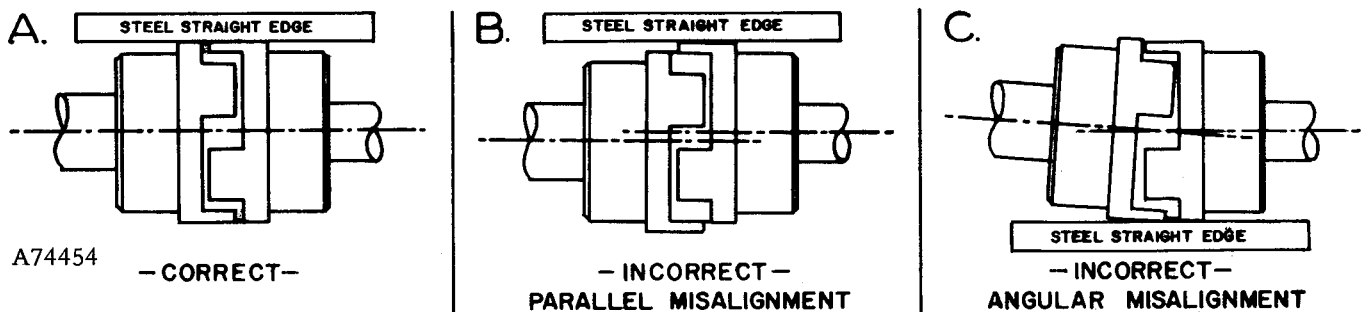

FIGURE 2-5. — COUPLING ALIGNMENT
3. Check angular alignment with a feeler gauge by comparing the gap between the coupling jaw and the opposite flange at the three points of proximity. Shim and adjust the motor and compressor so that the gaps are uniform (Views "A" and "C", Figure 2-5). Maximum recommended gap variation is .010".
4. Check parallel alignment by placing a straight edge across both coupling body flanges. Shim and adjust the compressor and motor until the straight edge lies flat on both hubs measured at two (2) points 90° apart (Views "A" and "B", Figure 2-5). Maximum recommended difference in hub level is .010".